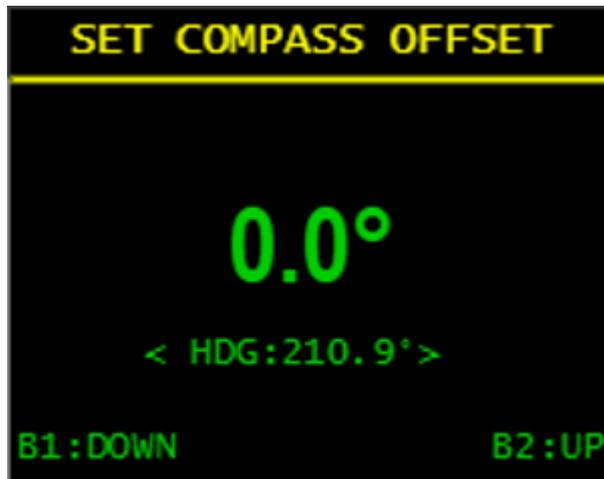

Fig 55 - Set compass offset
-  short press to access the set compass offset (**Fig 55 - on p. 33**);